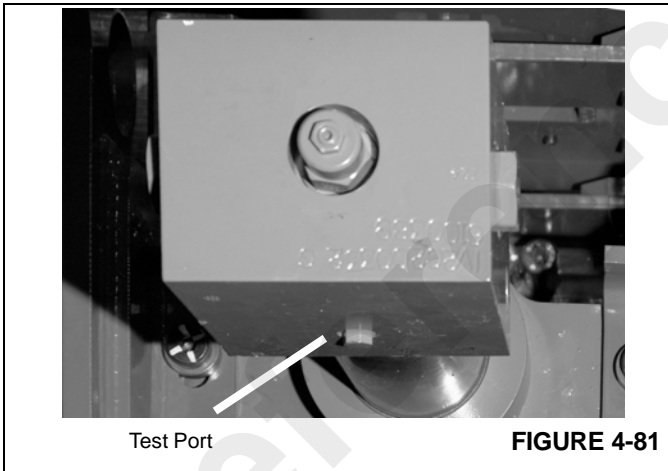

FIGURE 4-81
35. Turn Tele Cylinder port block so that the test port is down (Figure 4-81).